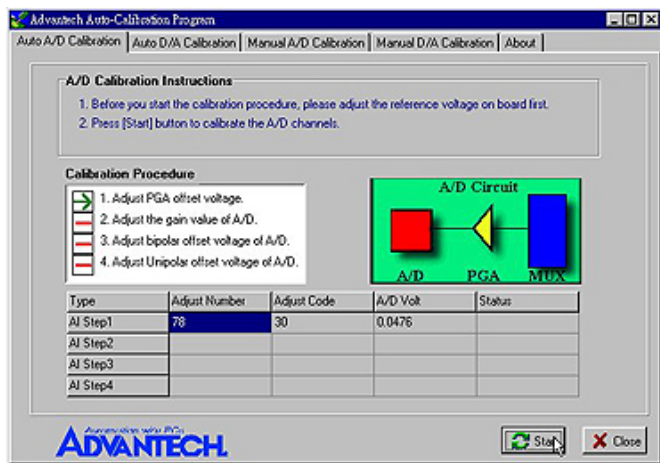

Figure 6-5: A/D Calibration Procedure 1
Step 5: The first A/D calibration procedure is enabled (Fig. 6-5).